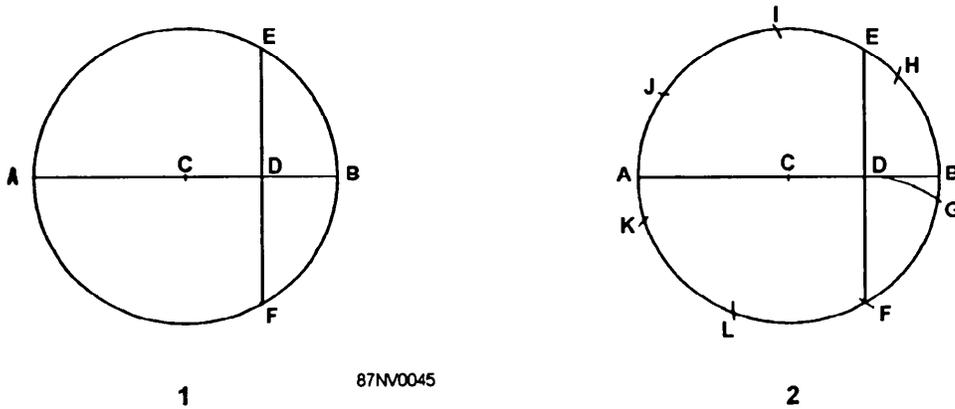
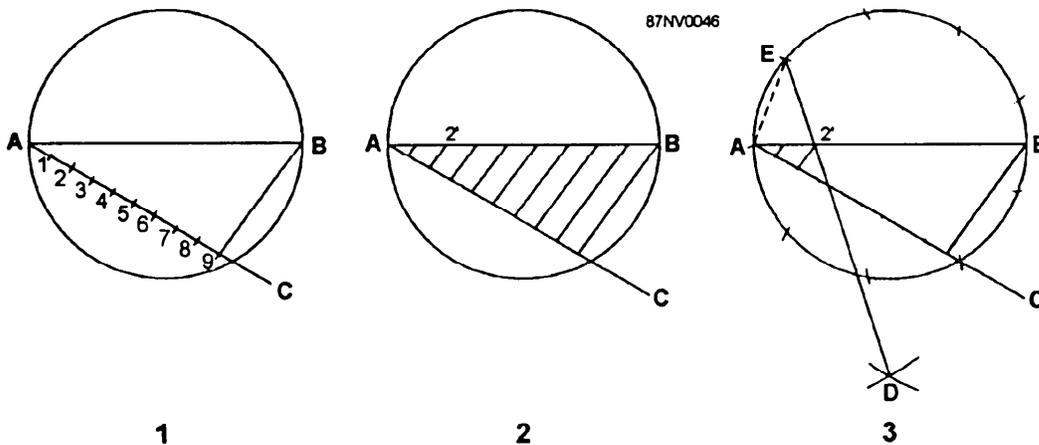

Figure 16-6.—Layout for a seven-hole flange.
Figure 16-7.—Layout for a nine-hole flange or flanges having any number of holes.
**PROBLEM II**—Lay out a seven-hole flange. (See fig. 16-6.)
1. Draw a circle with the required pitch diameter (AB). Then construct a line that bisects and is perpendicular to radius CB (point D). Extend this line until it intersects the circumference at E and F.
**PROBLEM III**—Lay out a nine-hole flange. (See fig. 16-7.)
The principles illustrated in figure 16-7 and discussed in problem III may be used to lay out a flange with any number of holes. The division of line AC is the variable of the layout. Just set the dividers to a convenient distance and step off spaces equal to the number of boltholes desired. If you want 13 boltholes, divide line AC into 13 equal spaces. The second space point (2' in fig. 16-7) is always used for the construction of line D2'E and the location of point E. If a pitch circle is difficult to divide into the required number of spaces, this method can be used to advantage. However, it is a lengthy construction. The layouts for five- and seven-hole flanges are easier to develop and have greater accuracy.